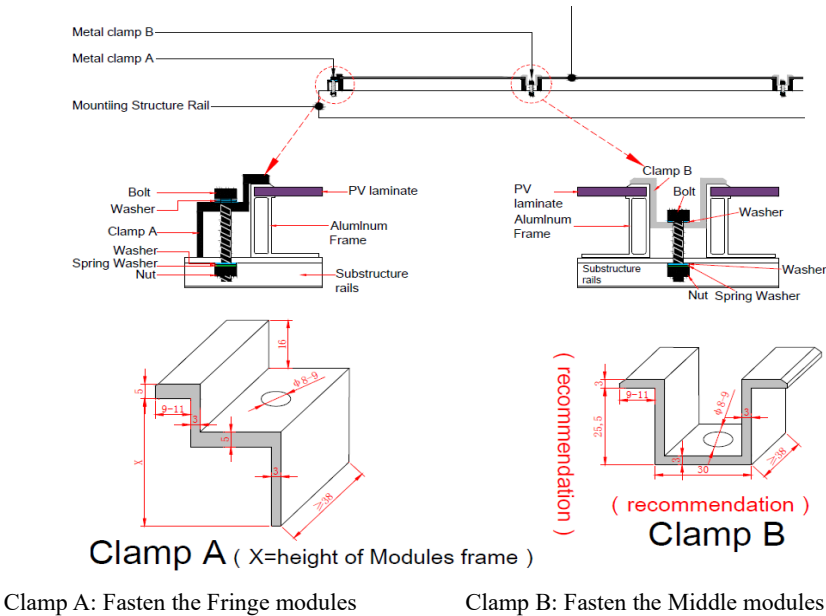

FIG 3 Schematic diagram of module fastened by clamp method
6.3.3.3 Using at least four clamps to fasten each module, two clamps should be fastened on each long side of the module. According to local Environment (depending on wind power and snow loads), additional clamps may be required to ensure modules and PV system to withstand anticipated mechanical pressure. We recommend using the following clamps (as shown in Figure 3), or approved by reputable solar installer or systems integrator.